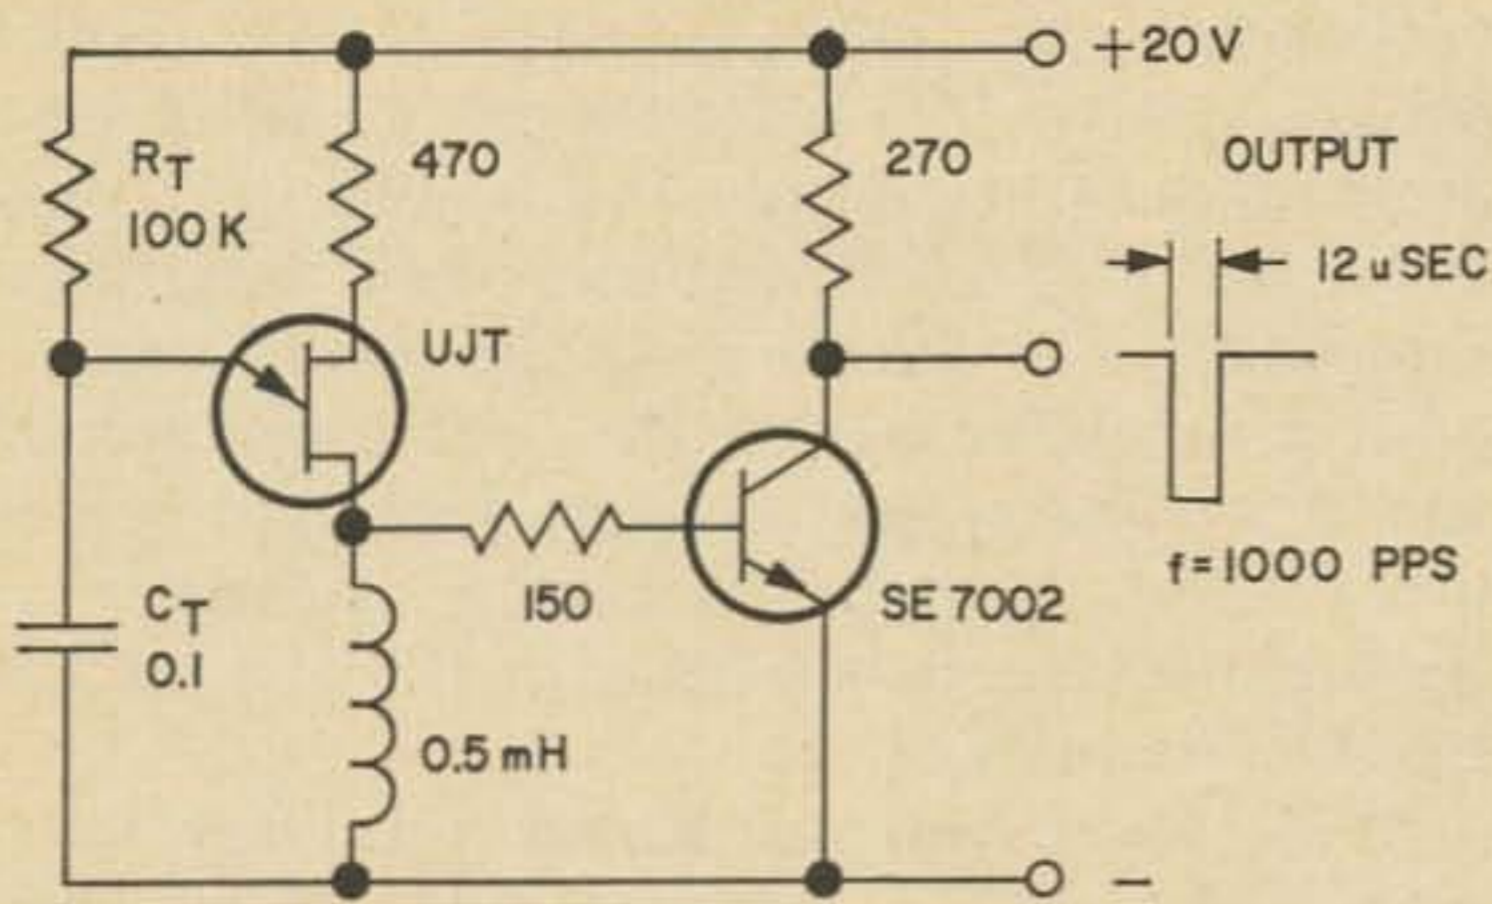

Fig. 17. Inverting the output pulse by use of a transistor.
The output pulse from these circuits has a relatively fast rise time and quite a slow fall time compared with the length of the pulse. A significant improvement in this state of affairs can be made by using an inductance in the B_1 circuit. A transistor can be used to invert the output pulse. (See Fig. 17).
For more critical applications the circuit in Fig. 17 can be used. The width of the pulse is determined by the inductance in the emitter (L). The frequency of the pulses (or number of pulses per second) is determined by R_T and C_T . The rise and fall times will be quite short, typically 1/20th to 1/50th of the pulse width "t".